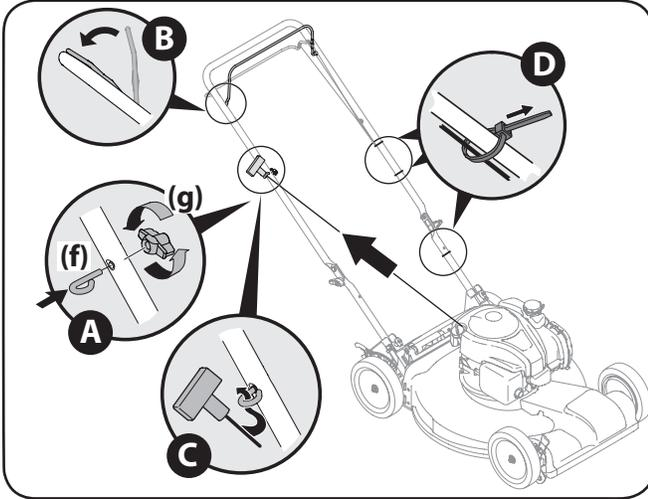

Figure 3-5
- Use the lock nut (g) to tighten the eye bolt (f) to the upper handle. **DO NOT** overtighten. See Figure 3-5.